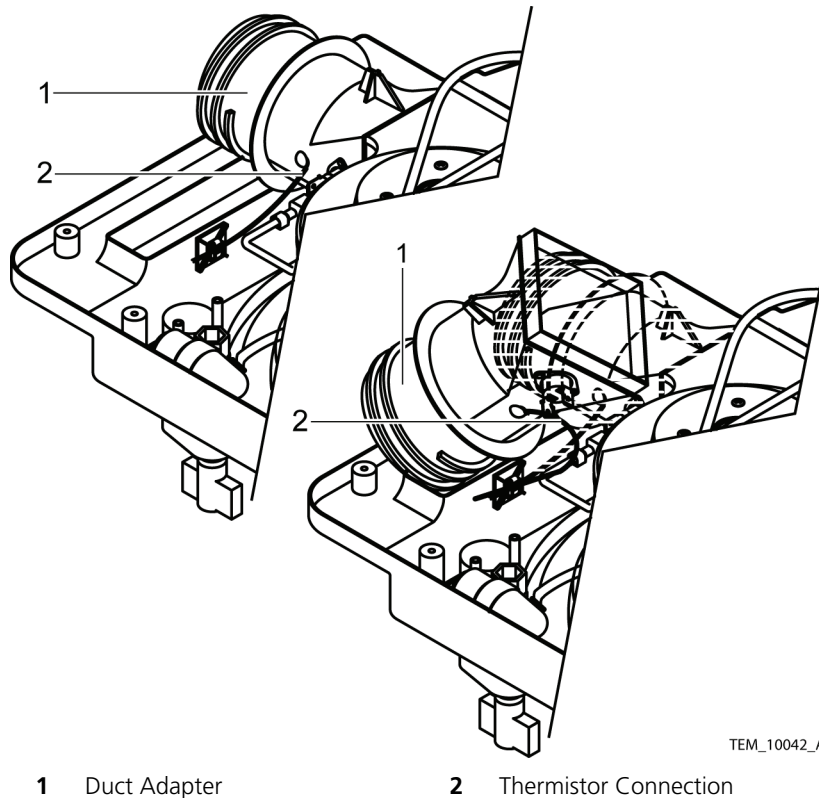

Figure 53. Duct Adapter Placement
22. Carefully reinsert the duct adapter into the blower assembly. See Figure 53.